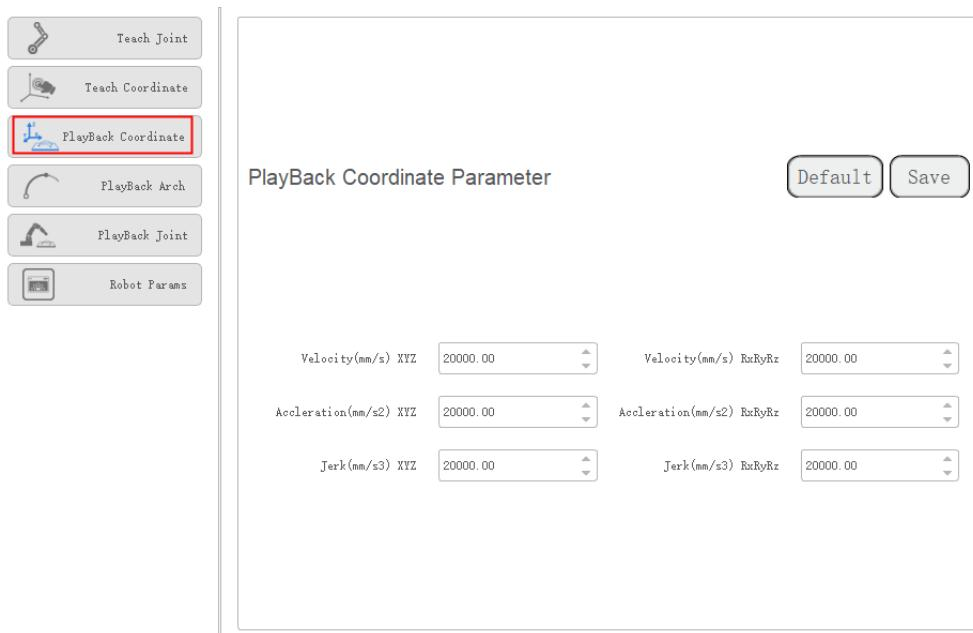

Figure 3.17 Playback parameters in the Cartesian coordinate system
- Playback Coordinate Parameter: Set the maximum velocity, acceleration and jerk in the Cartesian coordinate system when running robot programs. The playback parameters of a 6-axis robot in the Cartesian coordinate system are as shown in Figure 3.17.